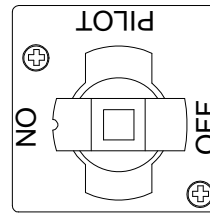

Figure 2
3. With the pilot lit, push down and slowly turn the knob to the ON position (see Figure 2 above). Once the pilot has been lit, the burner will automatically light whenever the thermostat is set above its lowest setting or the controller calls for heat.